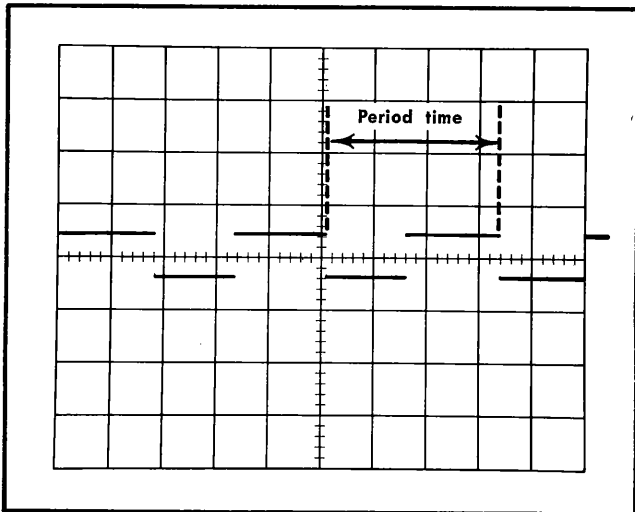

Fig. 2-11. 2B67 CAL adjustment waveform.
7. Check that the 2B67 (TIME/DIV) VARIABLE control is at its CAL position (UNCAL lamp out) and then measure the number of divisions per cycle. Adjust the 3A74 and 2B67 POSITION controls as necessary for convenient measurement, as in Fig. 2-11. Five divisions per cycle should exist if the Oscilloscope has a 1 kHz Calibrator. The number of divisions per cycle for a line-frequency Calibrator can be found in Table 2-3.